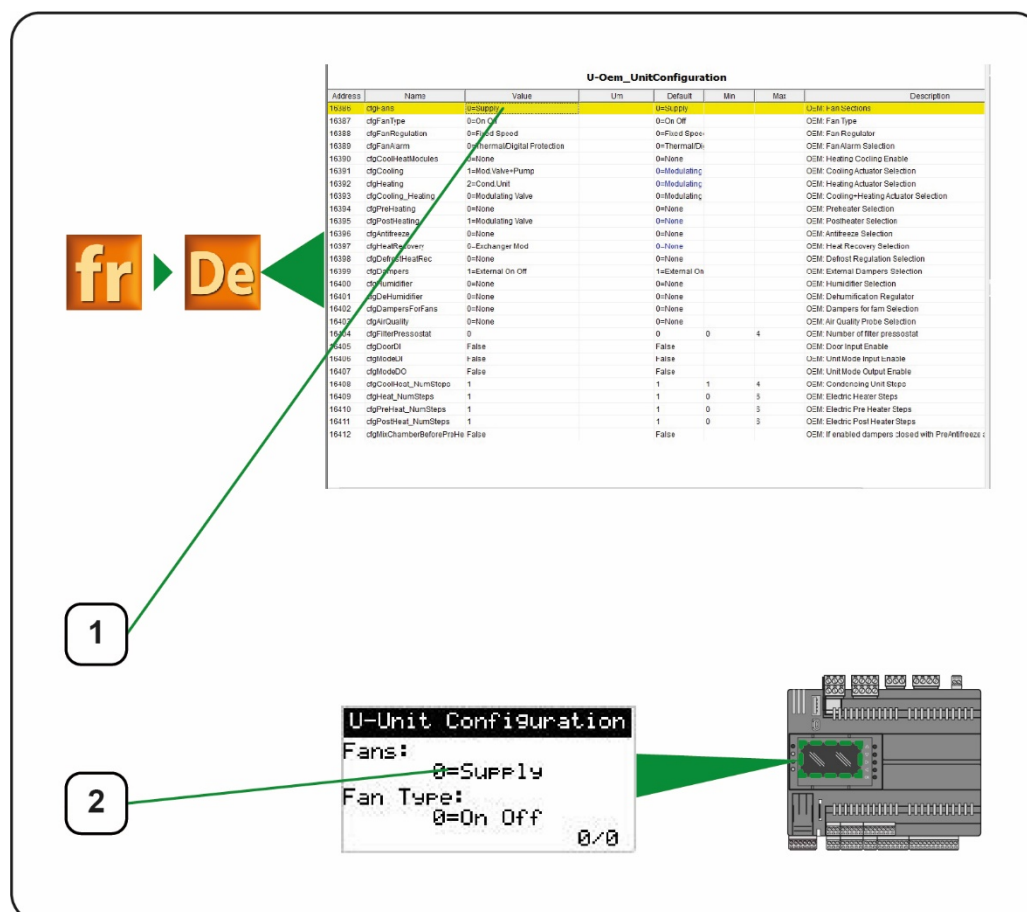

Fig 1 - Value field
- for the Device settings, the cell **(1 - Fig 1 - on pag. 9)** of the value column in correspondence with a parameter
- for the controller settings, the data **(2 - Fig 1 - on pag. 9)** shown after a parameter.